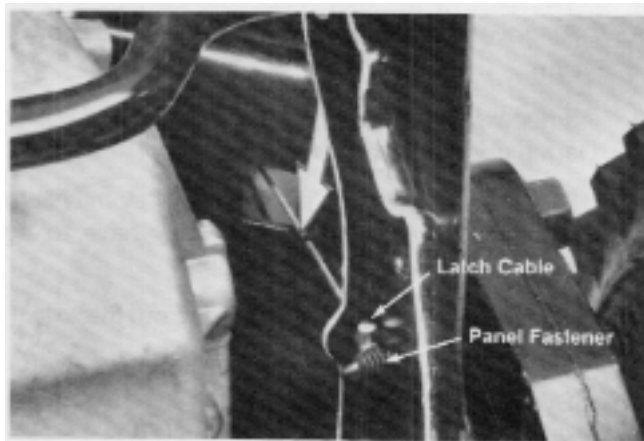

Figure 72
4. Swing the latch plate up into position and slip the cable into the slot provided. Secure the cable with a new panel fastener. See Figure 72.